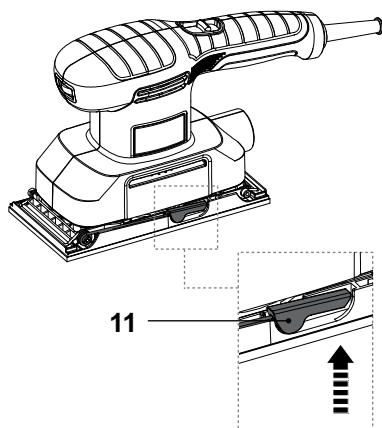

Fig. 3
- > Pull the clamp lever (11) upwards to disengage it (Fig. 3).